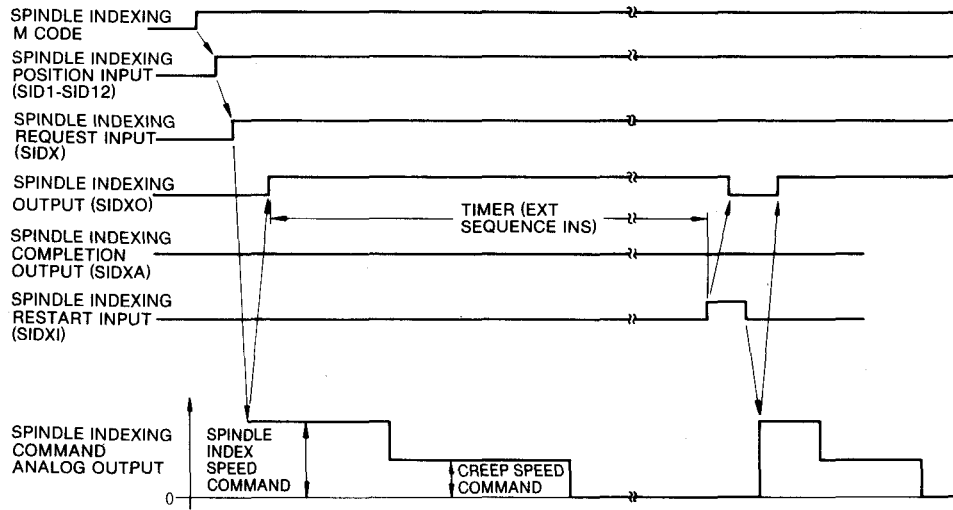

Fig. 19.19
- (i) Restart the spindle index if spindle index is not completed, the specified time after spindle indexing (Fig. 19.19).